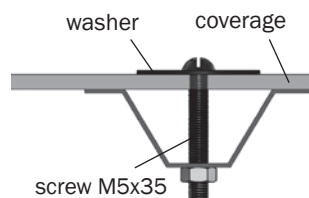

Fig.16
3. Mount side pieces of coverage in accordance with Fig.16. Holding a piece of coverage, fasten it with screws and washers by elements 6к, 7, 86 21 and by angles using tap screws with washers. Holes for screws are drilled by boring bit of 5 mm diameter from inside of greenhouse through holes in frame elements. Mount top pieces of coverage fastening them on angles with washers and tap screws. Cut overlapping with side pieces.